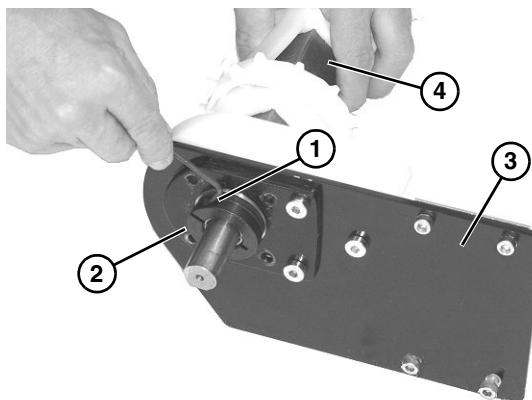

Figure 42
7. Loosen the bearing collar set screw (**Figure 42, item 1**) and remove bearing collar (**Figure 42, item 2**).
8. Remove plate (**Figure 42, item 3**) from drive spindle (**Figure 42, item 4**).